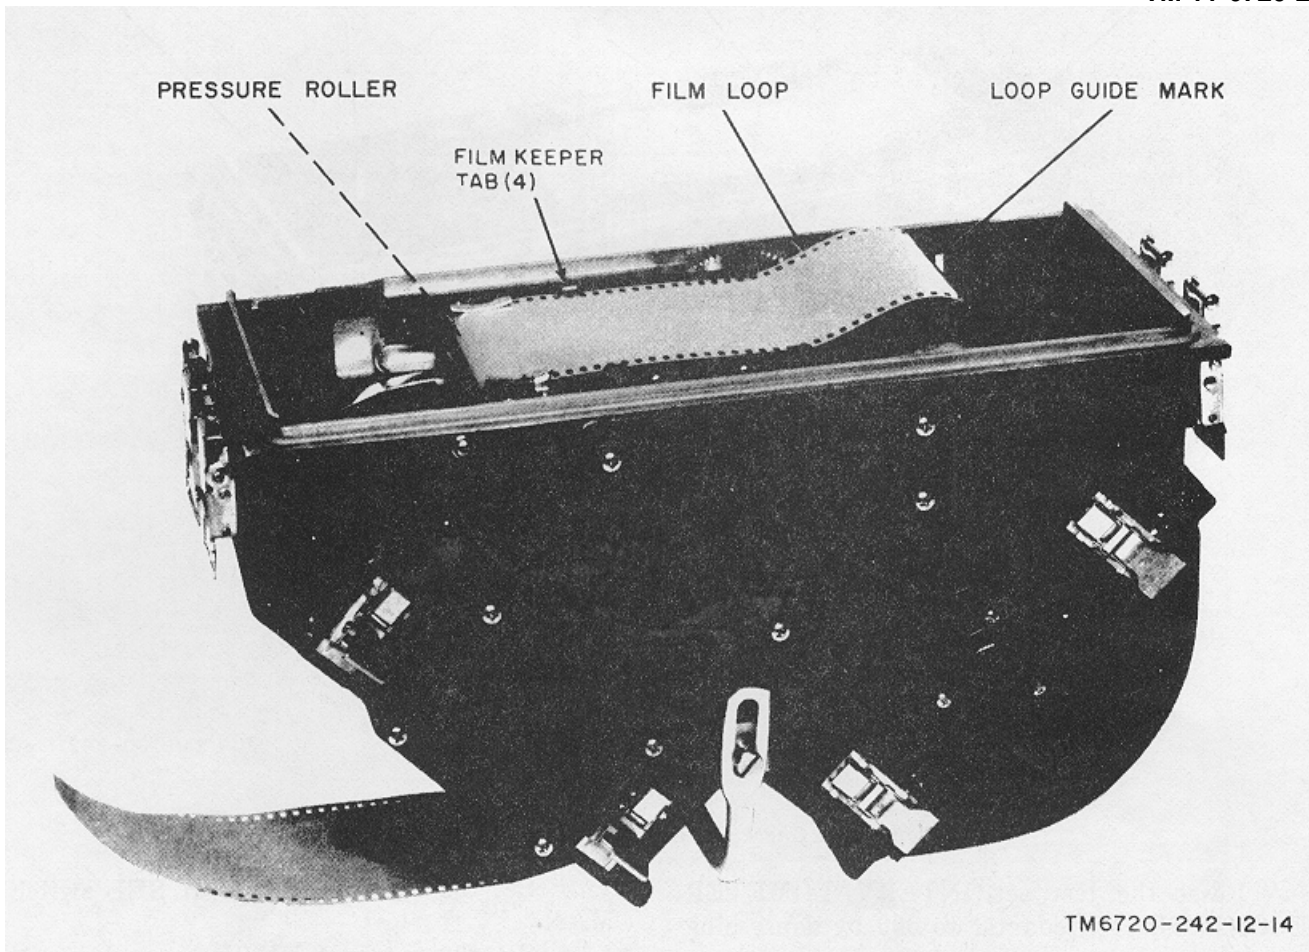

Figure 3-7. Forming film loop, subdued light.
- d. Insert the film edges under the film keeper tabs (fig. 3-7).
- b. Cut the film at the film loop on the underside of the magazine (fig. 3-7).